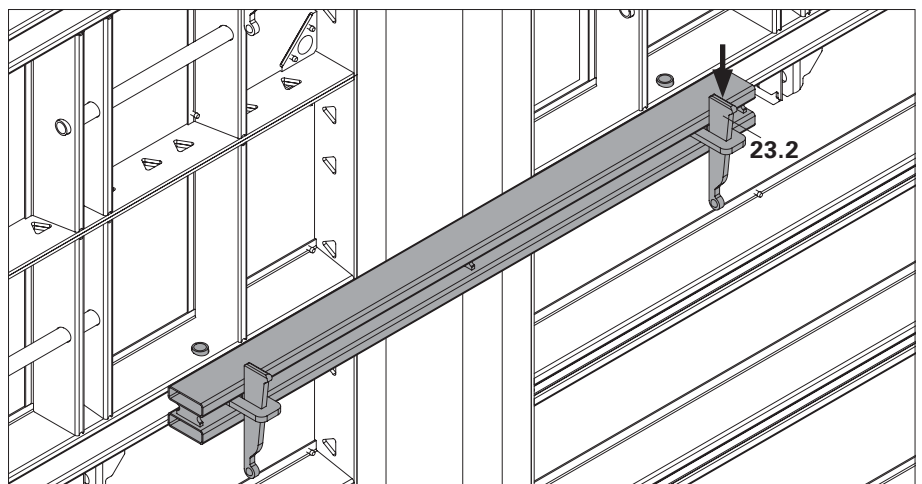

Fig. A4.11
- Compensation Waler (23) is now securely in position. (Fig. A4.11)